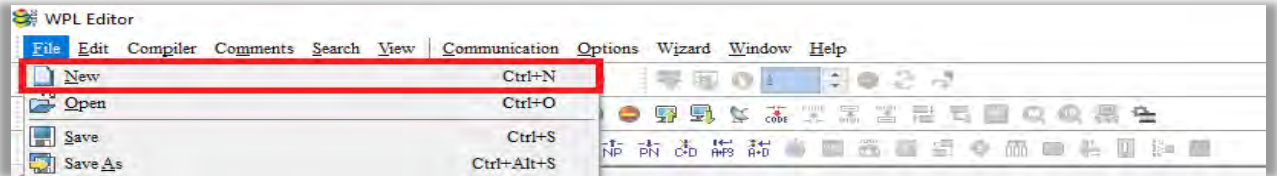

Figure 16-5
**NOTE:** You can also find "New file (N) (Ctrl+N)" in the "File (F)", as shown in figure 16-5 below.